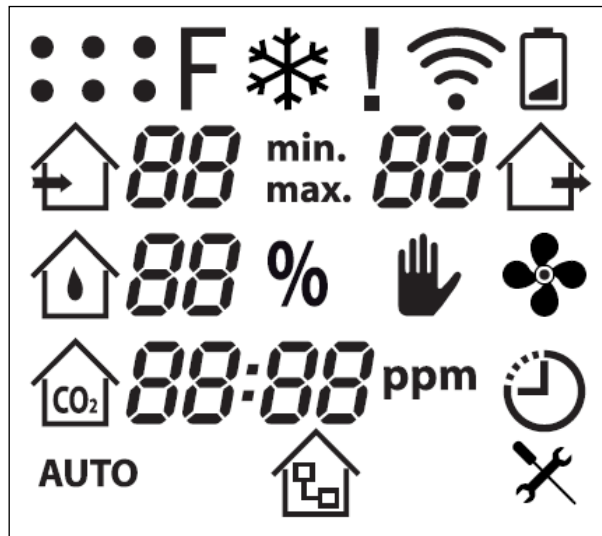

Fig. 4: Symbols on the LCD display
- First all available symbols are displayed (see Fig. 4 on page 11).